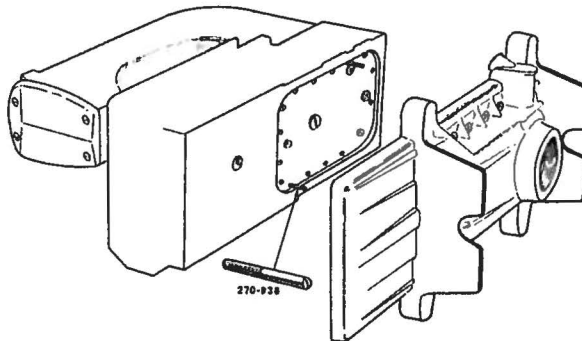

fig. 15
d) Assembling the oil basin (fig. 15)
- 1 Place the machine as shown in fig. 15.